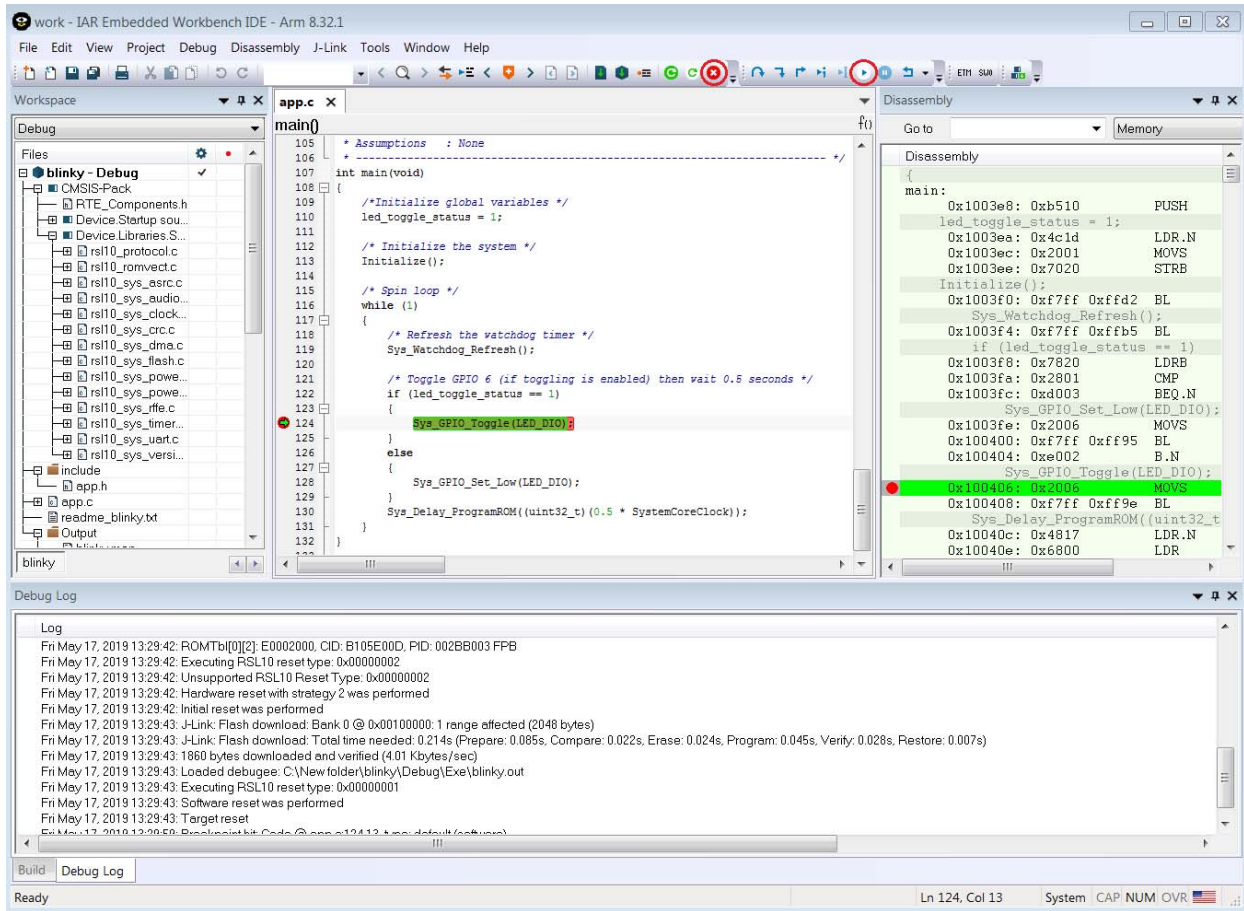

Figure 38. Debug Session in the IAR Embedded Workbench
3. The application runs up to the first breakpoint in *main*. You can press F5 or the Run icon (as shown in Figure 38) multiple times to step through the code and observe that the LED changes its state when the application executes the function `Sys_GPIO_Toggle(LED_DIO)`. To stop the debug session, press the Stop icon.